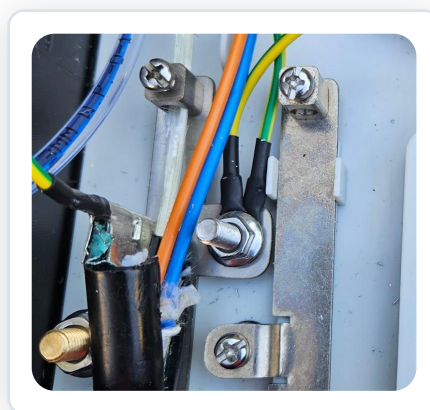

Fig. 2b
- Place the eyelet on the grounding stud as shown in Fig. 2b.